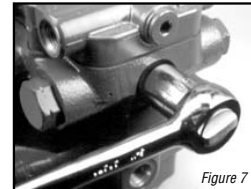

Figure 7
**6** Use a 7/8 in. socket or end wrench to remove the optional bypass valve assembly from the backplate (see Figure 7).